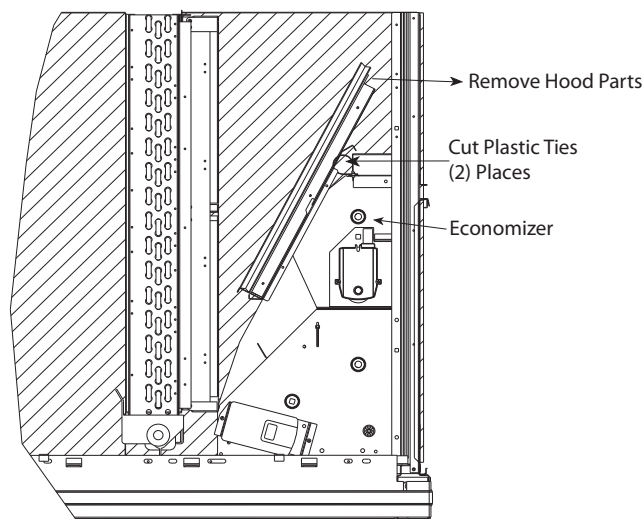

Fig. 2 - Economizer Wiring
3. Locate and cut the (2) plastic tie-wraps, being careful to not damage any wiring. (See Fig. 2.)